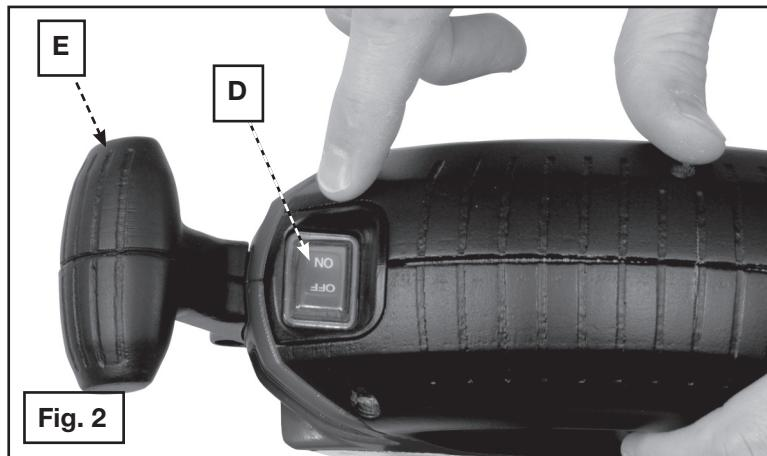

Fig. 2
WARNING: To reduce the risk of injury, be sure sander is turned off and disconnected from the power supply when changing the sanding belt. Before reconnecting the tool, make sure the switch (D) Fig. 2 is in the off position.
To turn unit on, depress the side of the dust-protected switch (D) Fig. 2 that reads "ON" and corresponds to the symbol "I". To turn the unit off, depress the side of the switch that reads "OFF" and corresponds with the symbol "O".
The front auxiliary handle is removable to allow the sander into tight spaces. The unit comes with the handle (E) Fig. 2 installed as shown. To remove the handle, loosen the screw (S) Fig. 4 in the center of the handle using a flat head screwdriver and then remove handle and screw.
2. Turn on switch (D) Fig. 2 to start the belt.
This can be a one-handed tool. Proper hand position would be to have one hand on the rubber portion of the body, as shown in Fig. 6. If needed, the other hand can grip the auxilliary handle (E) Fig. 2.